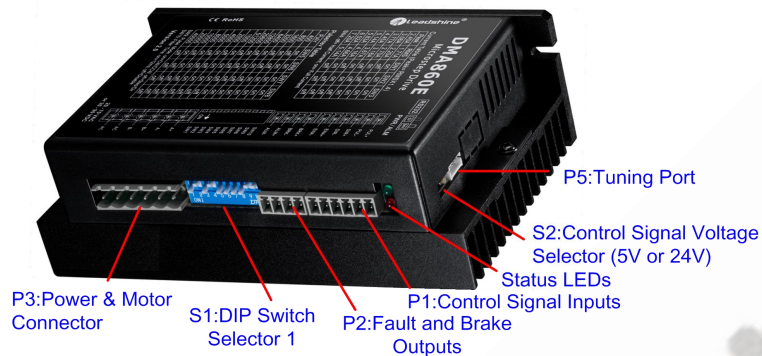

Figure 2 Connectors, DIP switches, and LED locations
PUL+ (CW+)	Pulse and Direction Connection: (1) Optically isolated, high level 4.5-5V or 24V, low voltage 0-0.5V (2) Maximum 200 KHz input frequency (3) The width of PUL signal is at least 2.5 μ s, duty cycle is recommended 50% (4) Single pulse (step & direction) or double pulse (CW/CCW) is set by DIP Switch SW9 (5) DIR signal requires advance PUL signal minimum 5 μ s in single pulse mode (6) The factory setting of control signal voltage is 24V, must need to set S2 (figure 2) if it is 5V
open-collector or PNP connection through the P1 connector (figure 2). It is recommend to add an EMI line filter between the power supply and the drive to increase noise immunity for the drive in interference environments.
- (1) ENA signal is no-connected as default;
- (2) Control signal amplitude is 24 V as default. If it is 12 V, please set the S2 (Figure 2) selector switch to 5 V first, then connect 1KΩ resistor; If it is 5V, please set the S2 to 5V.
The second 1-bit selector is located on the top (S2 in figure 2), used to configure the voltage of control signals. For the safety of optically coupled, the factory setting is 24V, which no need to connect 2K resistors like the old drives, making it easier to use. When the voltage of the control signal is 5V, the S2 must be set to 5V, otherwise, the motor won't work.